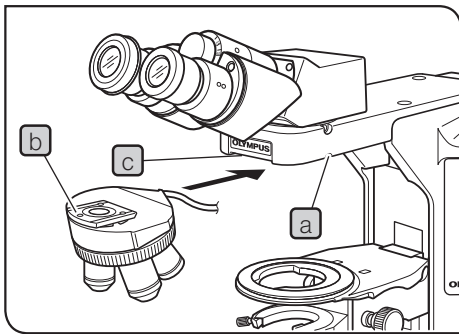

Fig.55
**10 Attaching the revolving nosepiece (Fig.55 & 56)**